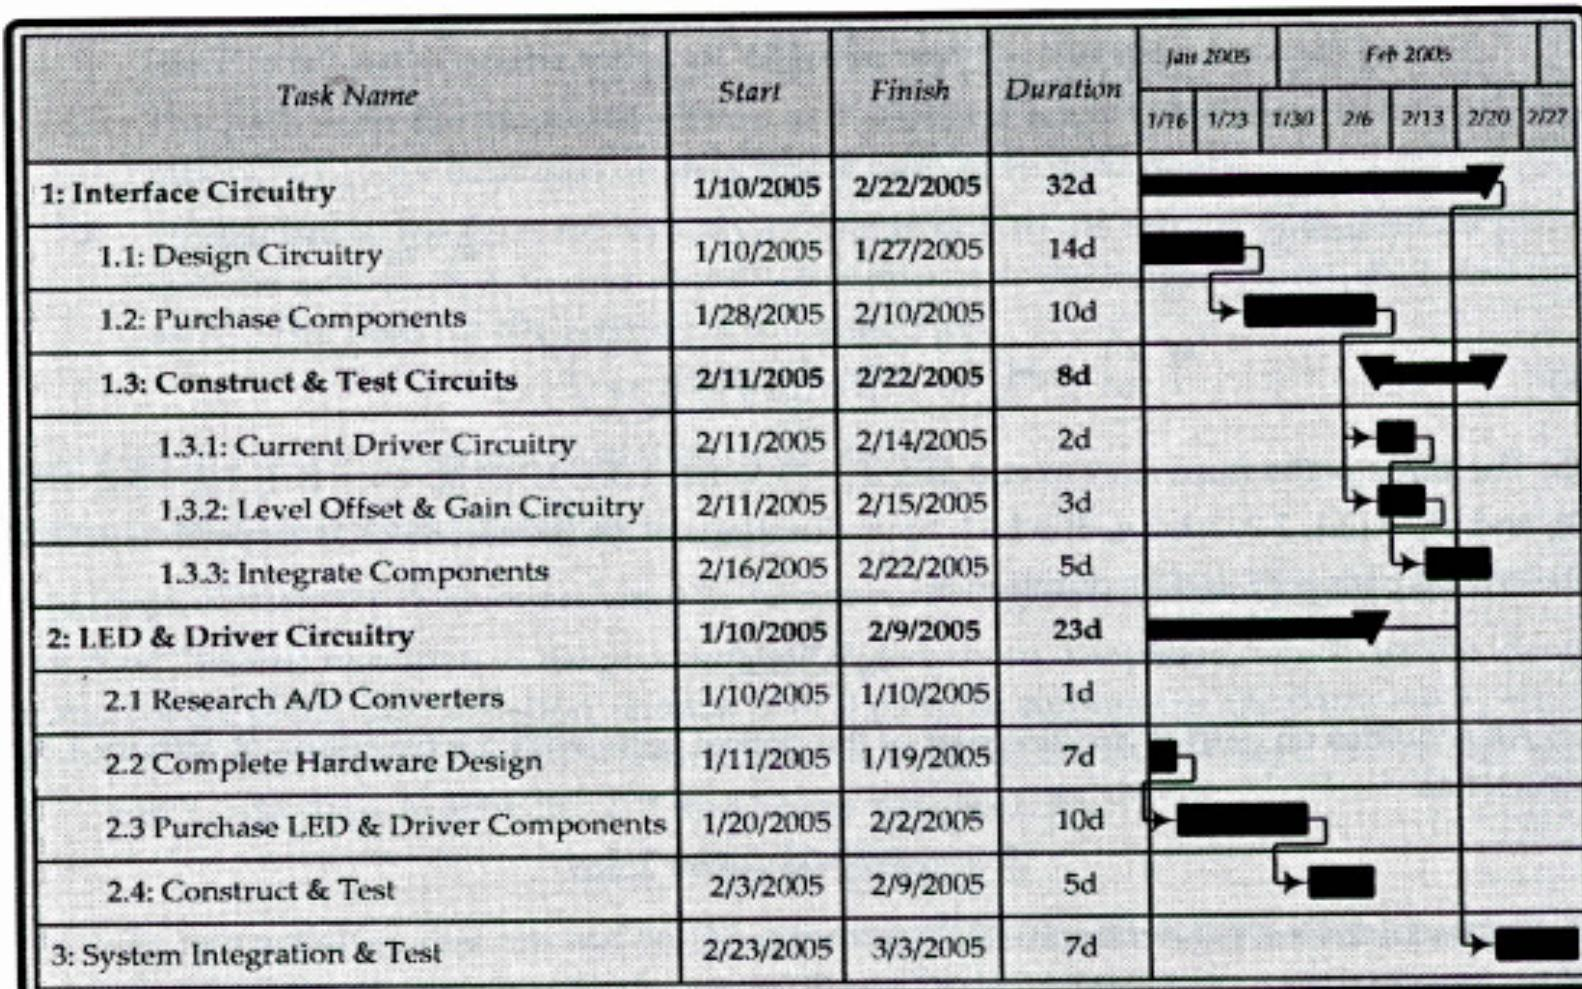

Figure 10.3 Gantt chart for the temperature display project created using Microsoft Visio™.
- 7) *Preliminary Schedule* (see Figure 10.3, Gantt chart)